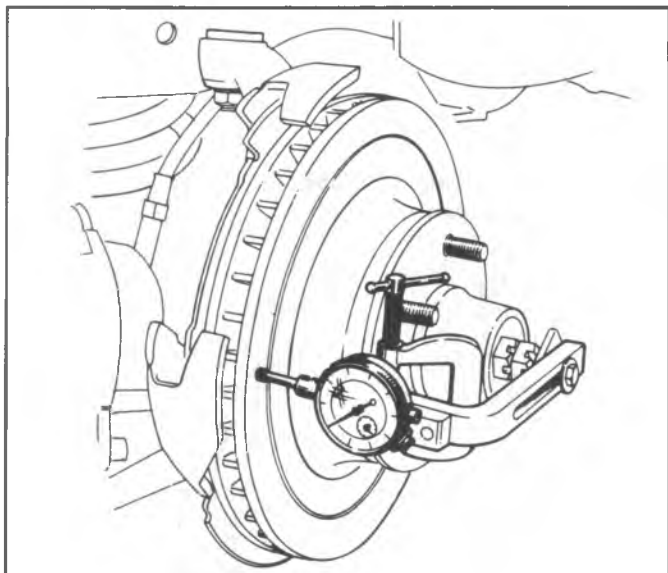

Fig. 5-43--Checking Rotor for Lateral Runout
3. To check lateral runout, first tighten the wheel bearings until all of the play is out of the bearings. Fasten a dial indicator to some portion of the suspension so that the point of the stylus contacts the rotor face approximately 1" (25 mm) from the rotor edge (fig. 5-43). Set the dial at zero. Move the rotor one complete rotation, checking the indicator as the rotor moves.